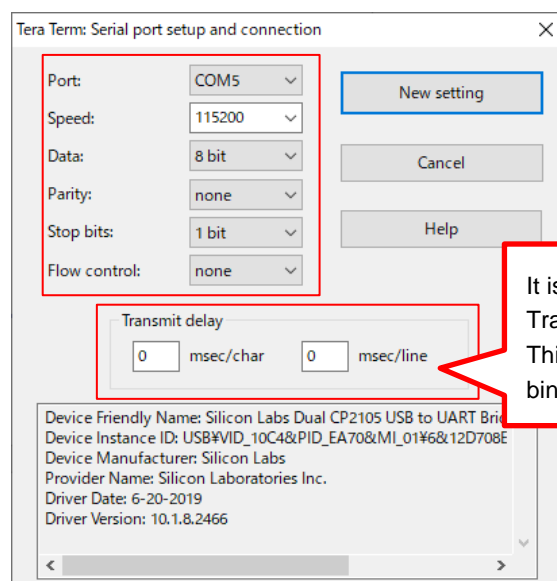

Figure 4-2. Terminal software setting
- (2) Start the terminal software on your PC. Figure 4-2 shows the setting of the terminal software.
- (3) Start the new connection. Choose “USB Serial Port”.